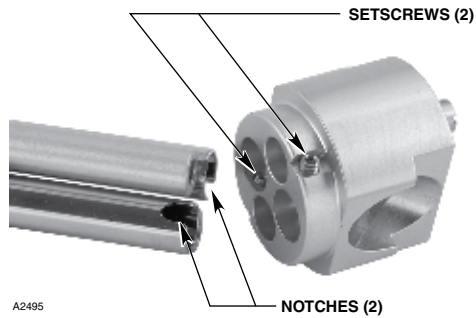

Figure 14—Setscrews on Mirror Assembly Line Up with Notches on Reflector Tubes
8. Insert the ends of the two reflector tubes into the larger holes in the mirror assembly and ensure that they are fully seated. The setscrews on the mirror assembly must line up with the slots on the reflector tubes. See Figure 14. Be sure that the holes in the reflector tubes are facing outward to allow unrestricted gas entry.